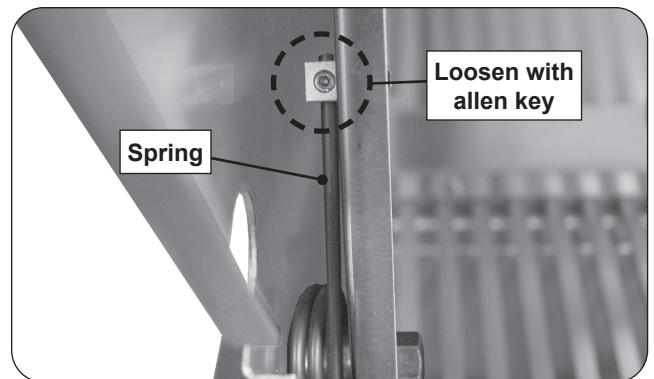

Fig. 1-1 Loosen screw
2. Locate the spring on the left side of the hood. Using an Allen wrench, loosen the screw as shown in Fig. 1-1.